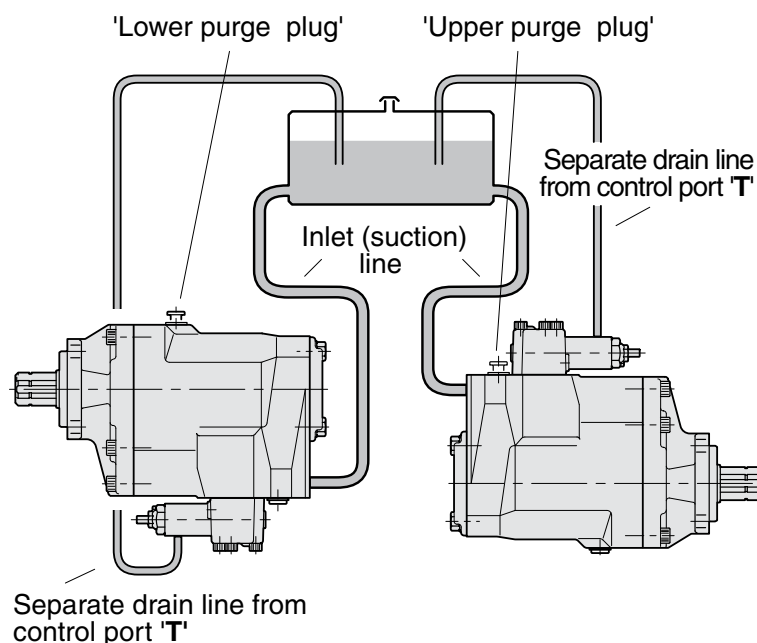

Fig. 6. Purging the VP1.
4. The pump should be installed below the lowest oil level in the reservoir (fig. 6, pg. 4); if this is not possible, please contact Parker Hannifin for further information.
5. A separate drain line must be installed between the control drain port T and the reservoir (refer to fig. 6, pg. 4); connect the drain line directly to the oil cooler (if the hydraulic system is so equipped).
- The pump must be filled with fluid and then purged before start-up (fig. 6). Please note, that purging should only be performed when the pump is connected to the reservoir and the entire system is filled with hydraulic fluid.
- As previously pointed out, a separate drain line is required between control port T and the reservoir (fig. 6).